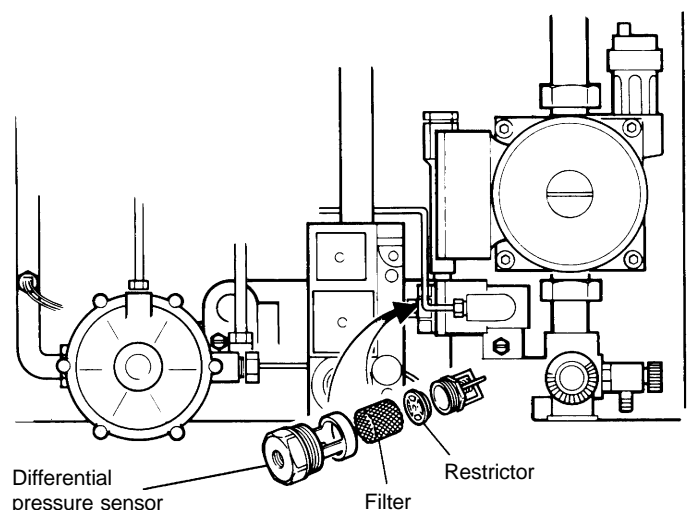

Fig. 33
8.30 DIFFERENTIAL PRESSURE SENSOR - Refer to Fig. 33